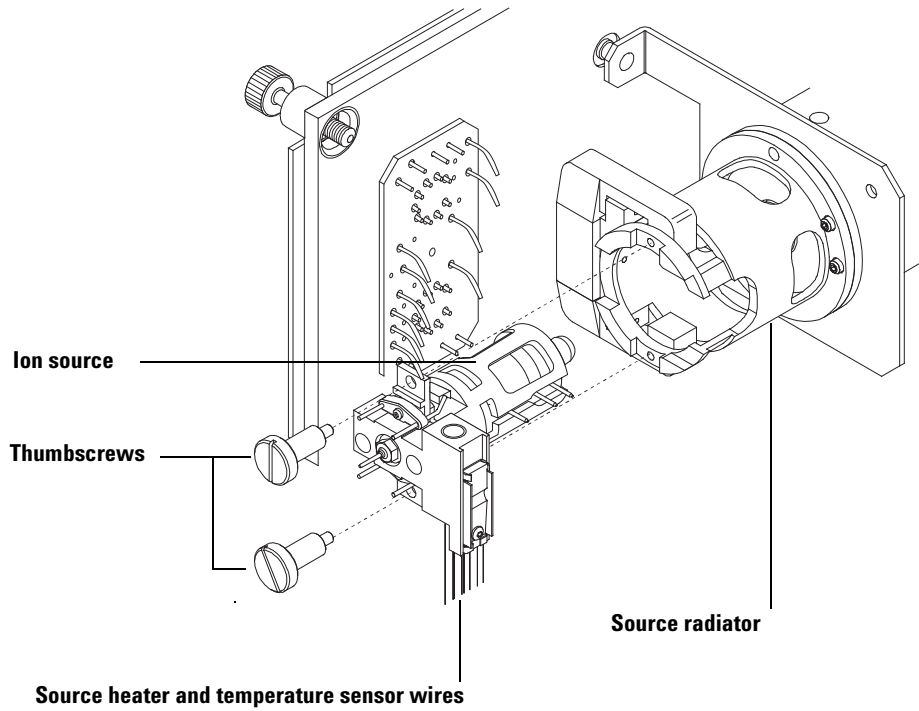

Figure 26 Installing the EI ion source
- 1 Slide the ion source into the source radiator (Figure 26).